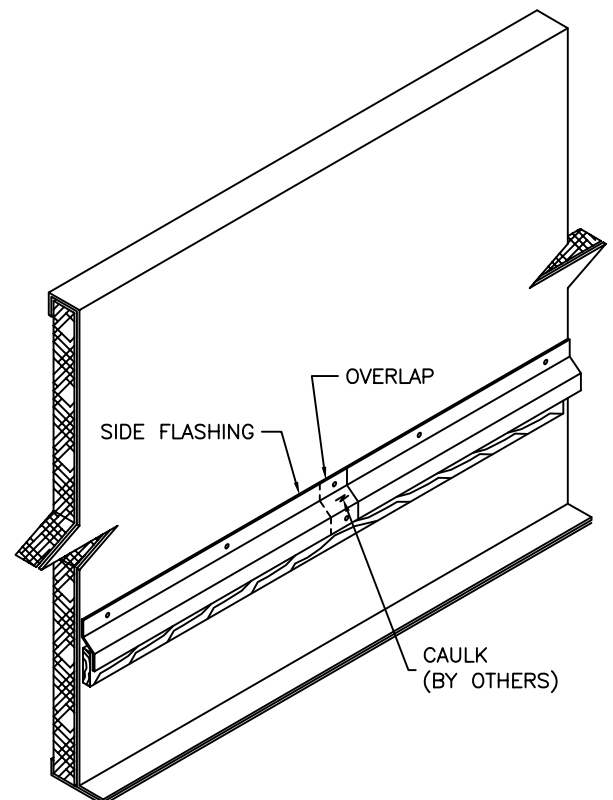

Figure 1-2
- (Step 3): After securing corner flashing to curb, set side flashing with 3" overlap, caulk underneath each overlap as shown in figure 1-2.